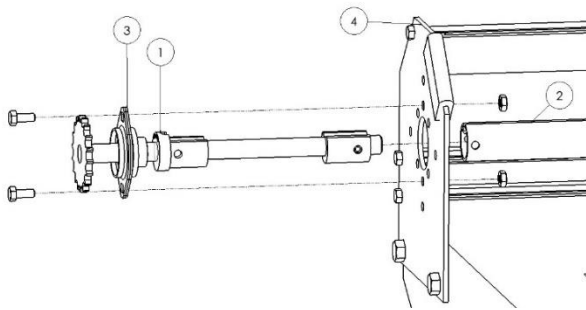

Figure 1.1
On the driver's side of the dump box, insert the 18 tooth sprocket shaft assembly through the mounting bracket and into the tarp axle. Press the tarp axle cap (1) into the tarp axle (2) so that it sits flush with the axle. Mount the bearing (3) to the mounting bracket (4) using 5/16" x 3/4" hex bolts and hex nuts. (Figure 1.1)